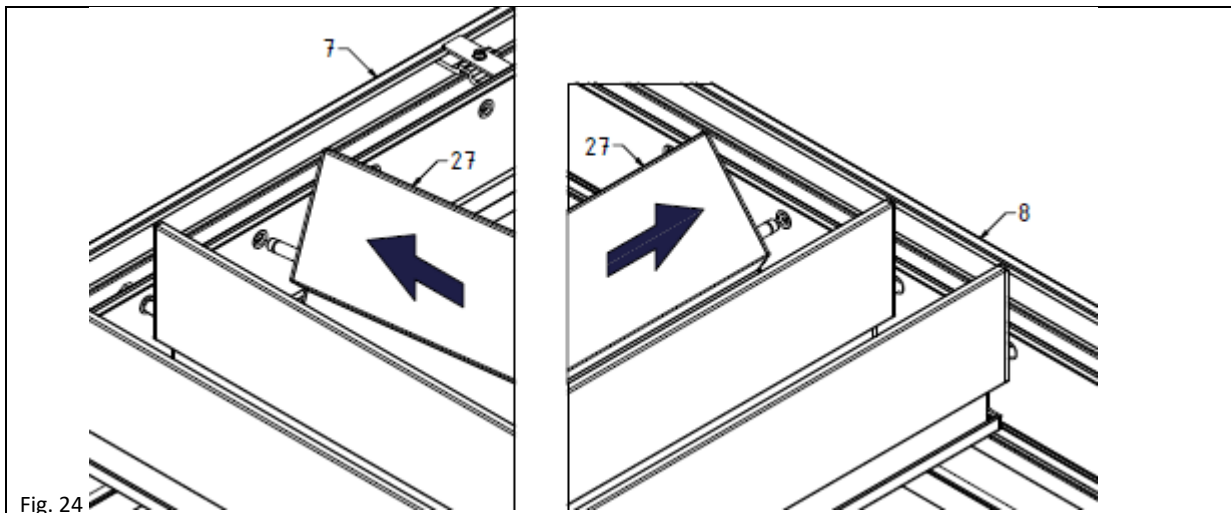

Fig. 24
26. Start the installation of the subsequent blades (27) from the side of the drive blades (17) going towards the ends of the pergola and following the information in points. 12/13 and para. 15 according to the positioning of the drive side (7) and bearing side (8) as shown in fig. 24 and securing the blades from the inside of the beam with a binder DIN6799 - 10 using the supplied assembly key (19) - fig. 25.